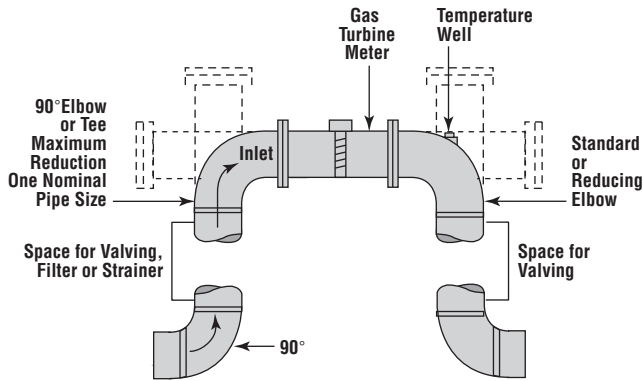

Figure 3
3. Offset, Close Coupled Sensus Turbo-Meters manufactured since October, 1974 incorporate integral straightening vanes. This design eliminates the need for long inlet runs and enables Turbo-Meters to be close-coupled as illustrated in Figure 3.